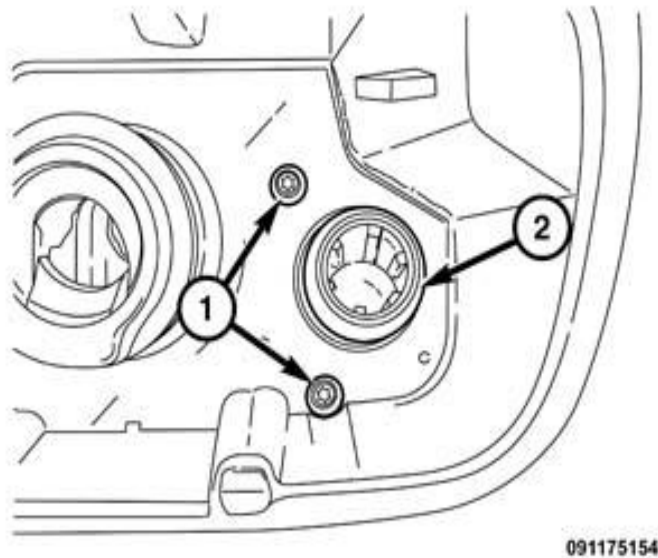

Fig. 2 Screws And DEF Filler Tube
3. Remove the screws (1) securing the DEF filler tube (2) (Fig. 2).